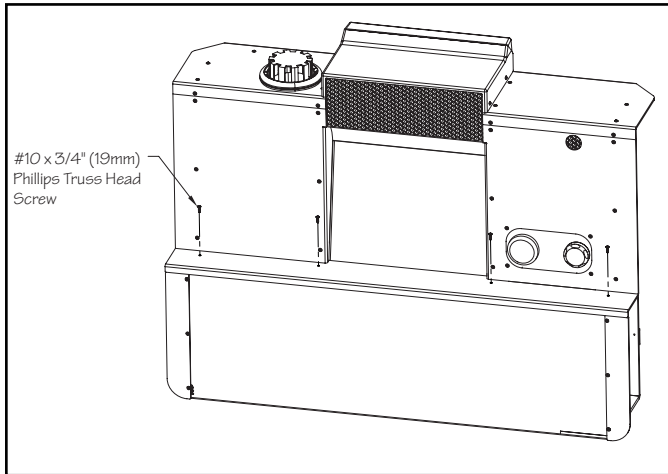

Fig. 105
1. Remove the #10 x 3/4" (19mm) Phillips Truss Head Screws on the horizontal surface of the suction outlet fitting grill cover. Fig. 105.